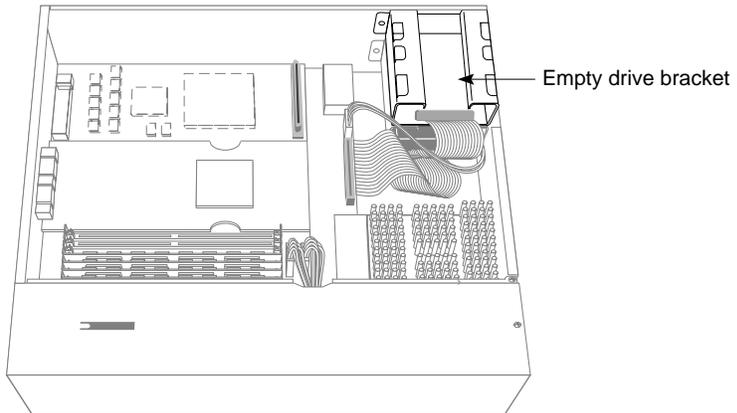

Figure 6-1 Locating the Drive Bracket Above the System Disk
5. Move the system or position yourself so that the power supply is close to you and the system drive and empty drive bracket are in the upper right hand corner, as shown in Figure 6-1.